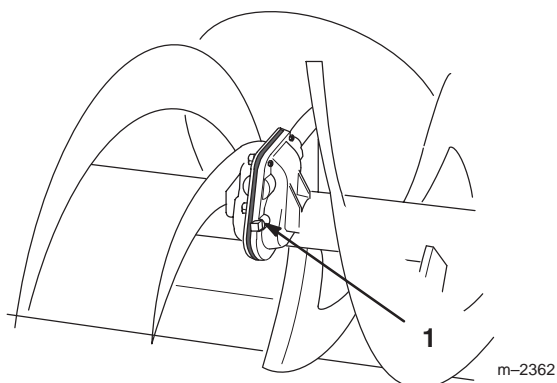

Figure 37
2. Clean area around plug with a rag and remove plug (Fig. 37).
3. Add SAE 90 gear oil until level with bottom of hole in housing (Fig. 37).